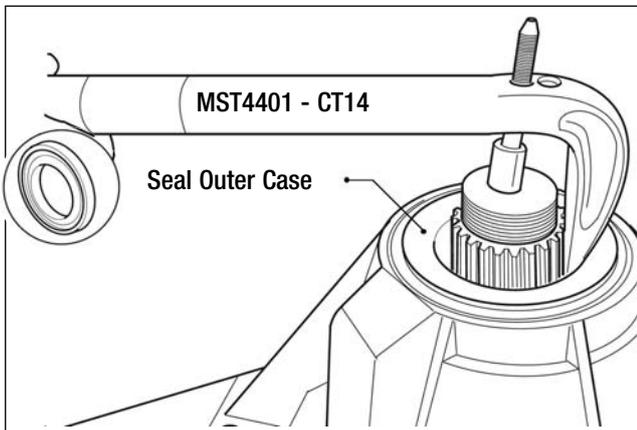

Fig. 4.6
- 9. Remove seal outer case with use of service tool MST4401 - CT14. Discard seal and replace with new for rebuild (Fig. 4.6)